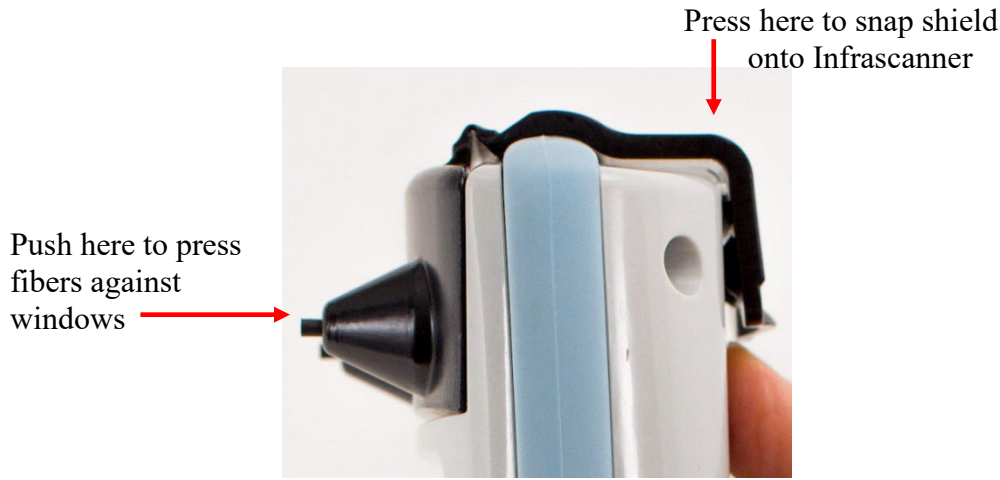

Figure 3-4: Attaching the Disposable Fiber Optic Shield
3.1.5. Attach the Disposable Shield to the Infrascanner as shown in Fig. 3-4. Place the fibers over the optical towers and push firmly at the top/back of the disposable, until you feel the disposable snap onto the Infrascanner. Once the disposable Shield is installed press the fibers inward so that they are up against the windows.